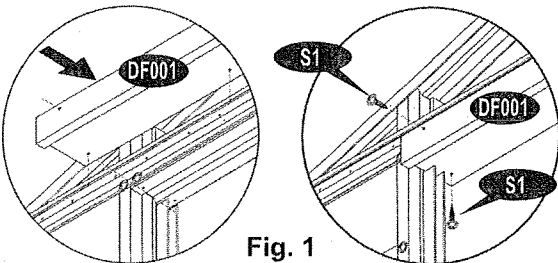

Fig. 1
11. Place door flashing top (DF001) and secure with (S1) screws. See fig. 1 & 2.